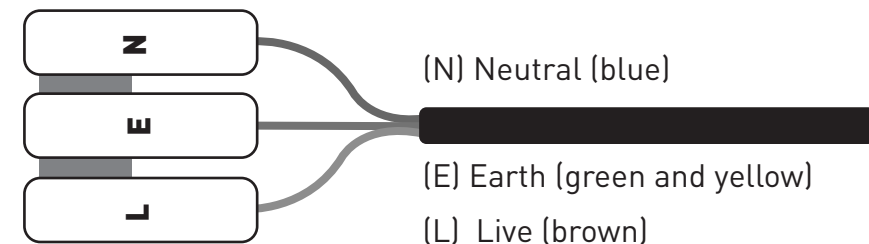

Fig 3
- Wire the mains cable as shown in Fig 3
- Connect the Live (brown), Neutral (blue) and Earth (yellow and green) via the three-way terminal connector (see Fig 3)